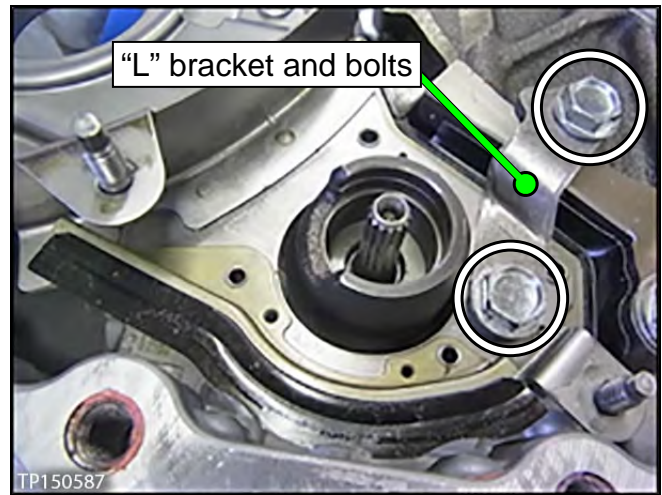

Figure 36
4. Remove the two (2) bolts, and then remove the "L" bracket (see Figure 36).